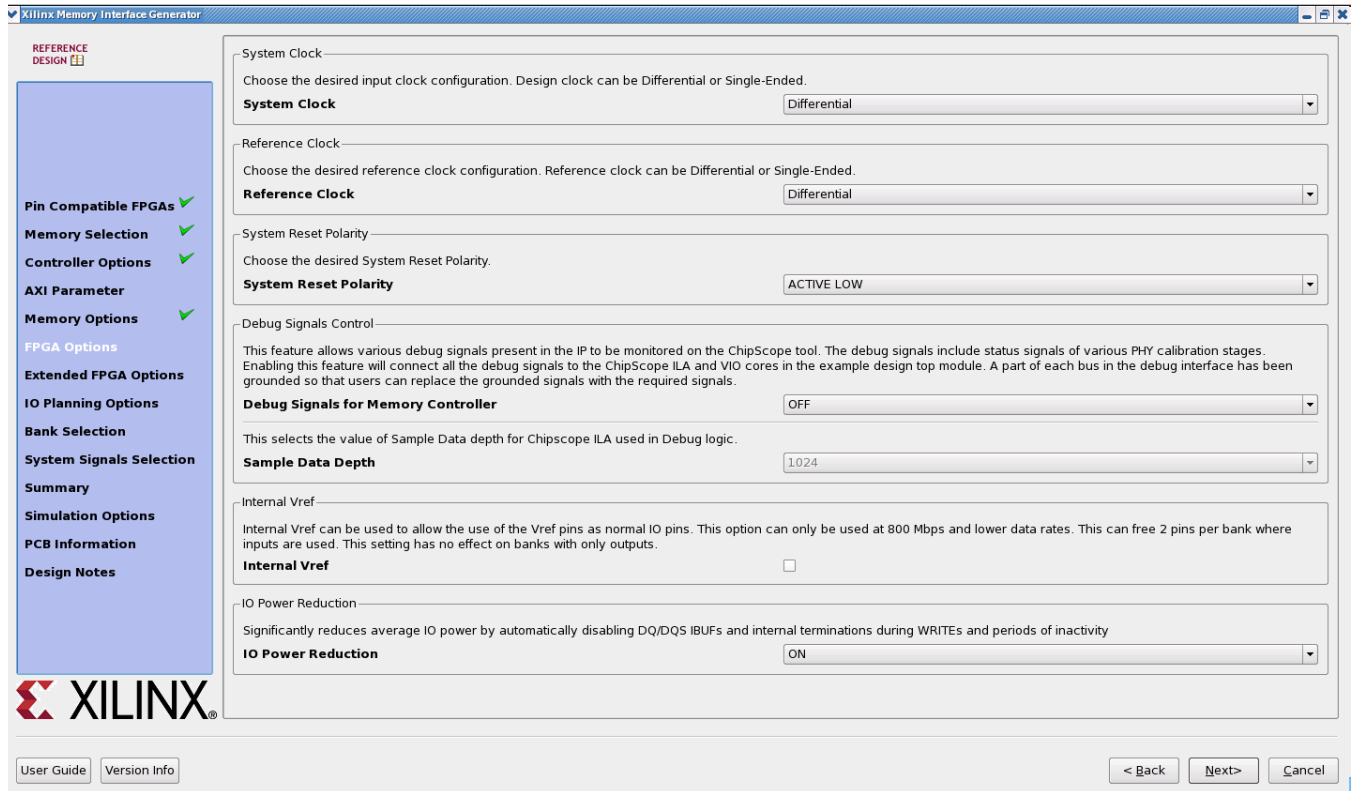

Figure 4-21: **FPGA Options**
Figure 4-21 shows the **FPGA Options** page.
- **sys_clk** – This is the system clock input for the memory interface and is typically connected to a low-jitter external clock source. Either a single input or a differential pair can be selected based on the **System Clock** selection in the **FPGA Options** page (Figure 4-21). The `sys_clk` input must be in the same column as the memory interface. If this pin is connected in the same banks as the memory interface, the MIG tool selects an I/O standard compatible with the interface, such as DIFF_SSTL12 or SSTL12. If `sys_clk` is not connected in a memory interface bank, the MIG tool selects an appropriate standard such as LVCMOS18 or LVDS. The XDC can be modified as desired after generation.
- **clk_ref** – This is the reference frequency input for the IDELAY control. This is a 200 MHz input. The `clk_ref` input can be generated internally or connected to an external source. A single input or a differential pair can be selected based on the **System Clock** selection in the **FPGA Options** page (Figure 4-21). The I/O standard is selected in a similar way as `sys_clk`.
- **sys_rst** – This is the asynchronous system reset input that can be generated internally or driven from a pin. The MIG tool selects an appropriate I/O standard for the input such as LVCMOS18 and LVCMOS25 for HP and HR banks, respectively. The default polarity of `sys_rst` pin is active-Low. The polarity of `sys_rst` pin varies based on the **System Reset Polarity** option chosen in **FPGA Options** page (Figure 4-21).